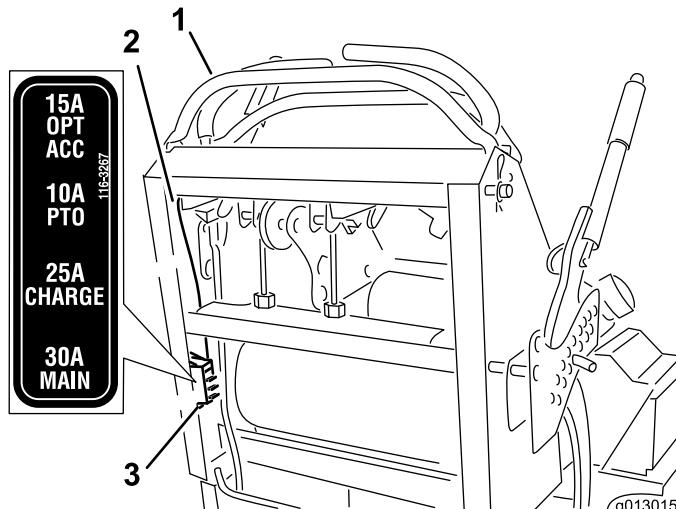

Figure 54
2. Pull out on the fuse to remove and replace it (Figure 54).